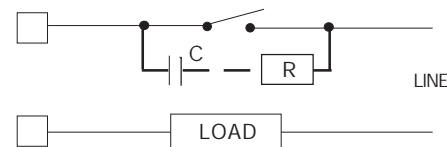

Fig. 9 EXTERNAL SWITCH IN SERIES WITH THE INTERNAL CONTACT
High voltage transients may occur switching inductive loads. Through the internal contacts these transients may introduce disturbances which can affect the performance of the instrument. For all the outputs, the internal protection (varistor) assures a correct protection up to 0.5 A of inductive component. The same problem may occur when a switch is used in series with the internal contacts as shown in Fig. 9.
In this case it is recommended to install an additional RC network across the external contact as show in Fig. 9. The value of capacitor (C) and resistor (R) are shown in the following table.